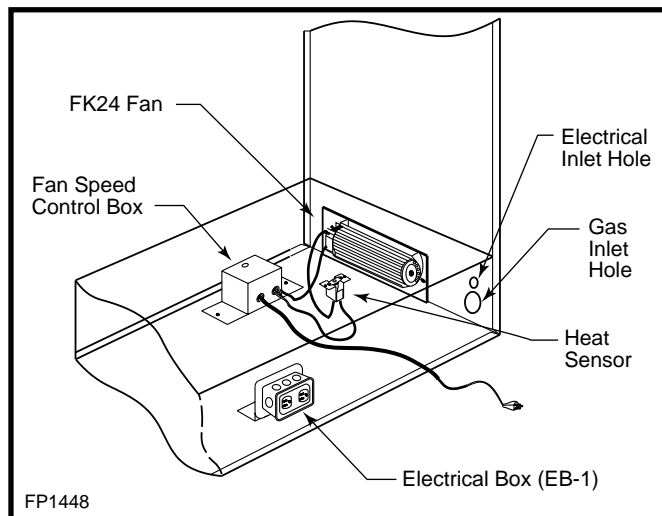

Fig. 50 Fan installation.
2. Install the thermal sensor under the bottom of the firebox, locating it over the two (2) 10 mm studs, and secure it with nuts.
3. Locate the fan speed control unit. This can be fitted behind the lower louvre assembly as in Fig. 50, or located remotely in a conveniently located wall mounted electrical box. Remote location of the speed control will require suitable extension of the component wiring.